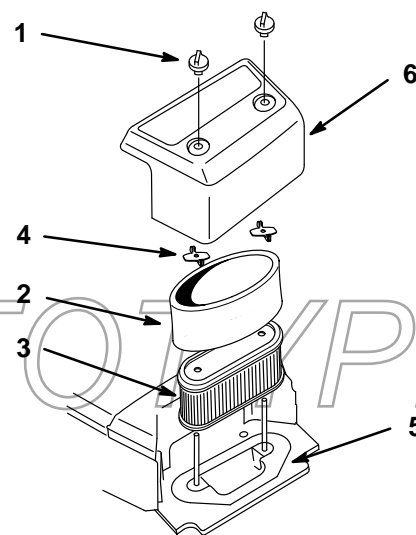

Figure 23
2. Clean around the air cleaner to prevent dirt from getting into the engine and causing damage. Remove cover nuts and cover (Fig. 23).
3. Remove wingnuts and air cleaner elements (Fig. 23).
- Carefully remove the foam element from the paper element (Fig. 23).
- Carefully slide the foam element onto the paper air cleaner element (Fig. 23).
- Place the air cleaner assembly onto the air cleaner base and install wingnuts (Fig. 23).
- Install the air cleaner cover and secure with cover nuts (Fig. 23).